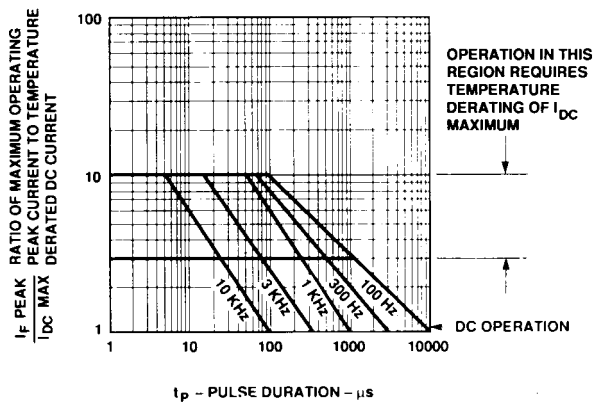

Figure 7. Maximum Tolerable Peak Current vs. Pulse Duration - HER, Orange.
- See Figure 7 to establish pulsed conditions.